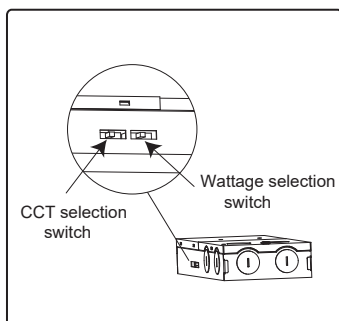

Fig 5.
8. Battery Test Button is provided with adhesive backing. Align the Test Button to edge of Fixture Frame closest to the lens for easy accessibility as shown in (Fig.5)